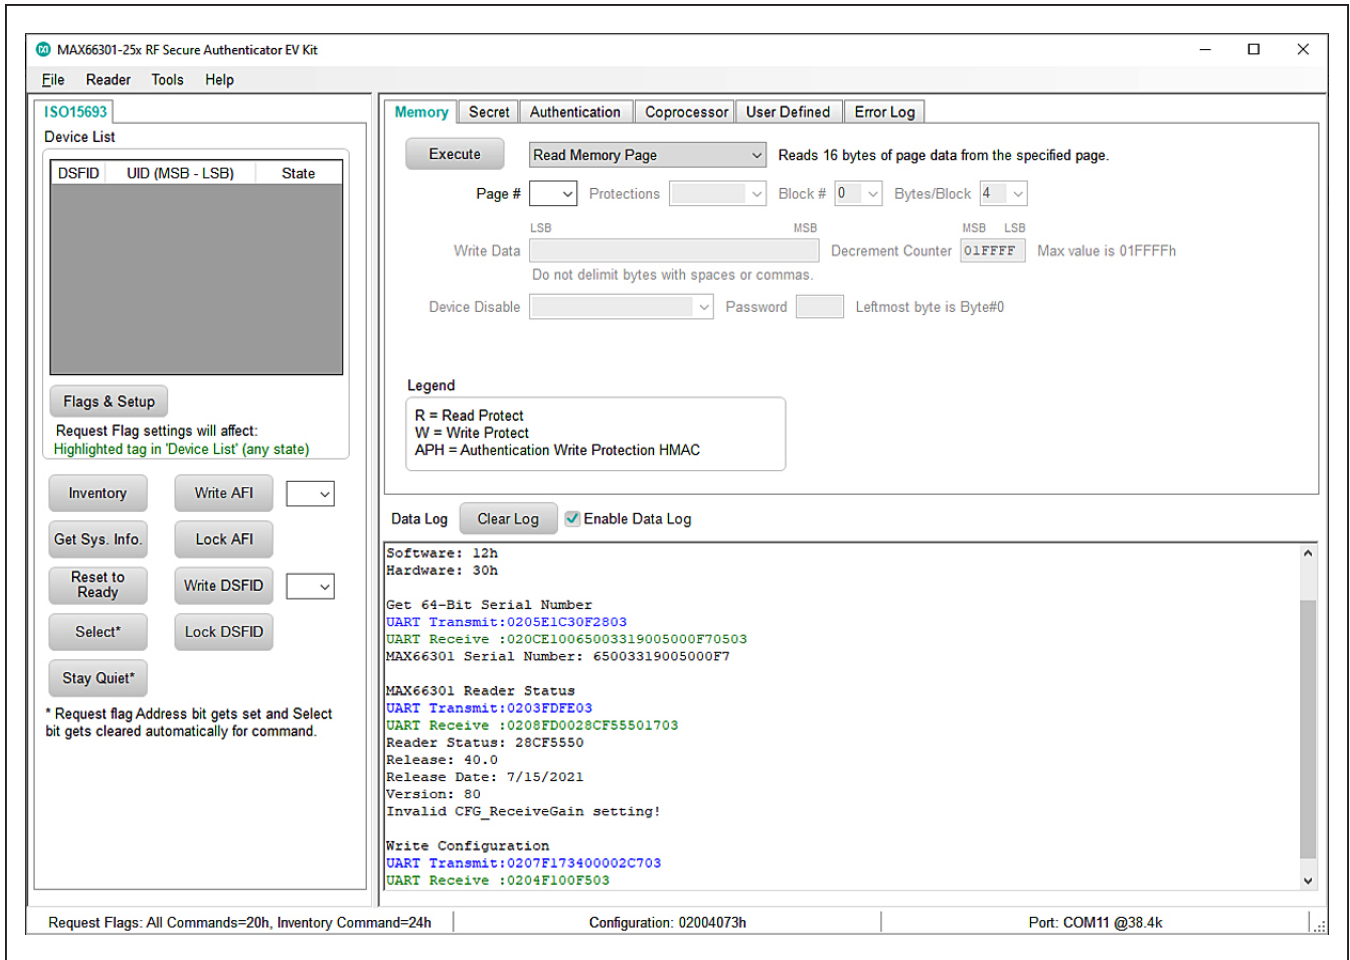

Figure 4. MAX66301-25x EV Kit GUI
- 8) The evaluation program GUI appears as shown in Figure 4.